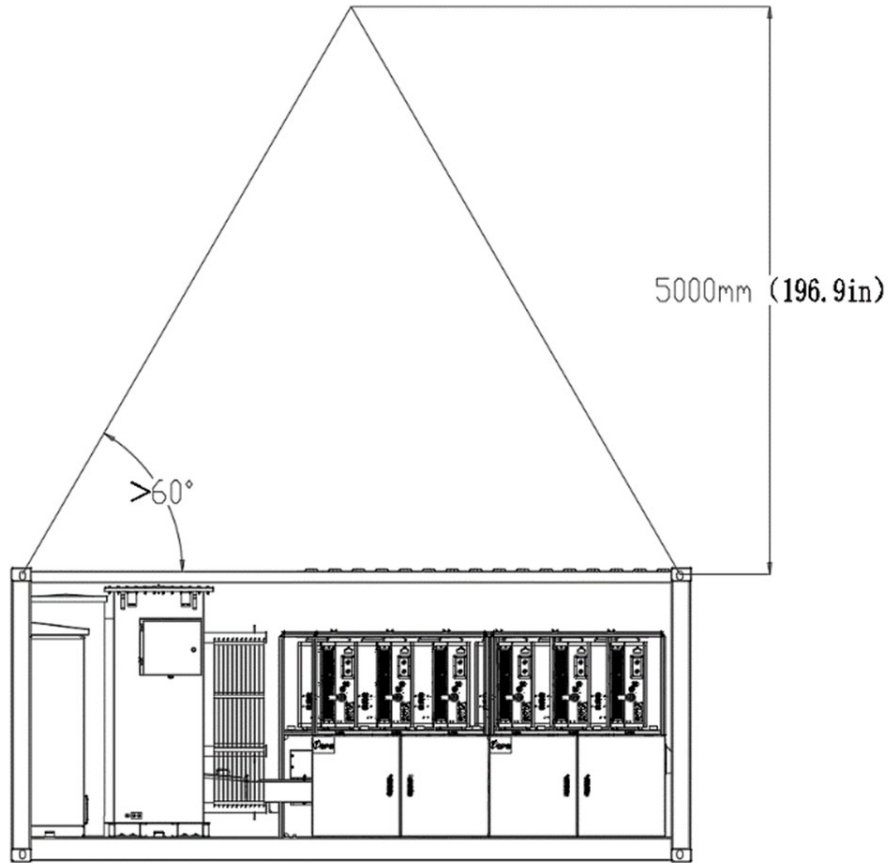

Fig. 3-4 Schematic Diagram of Crane Handling
- The lifting cable used has a bearing capacity of more than 10 tons and a length of more than 6.5 meters. 4 lifting cables are used for lifting at 4 corners. Angle between the lifting cable and the equipment should not be less than 60° (Fig. 3-4), and the total bearing capacity should not be less than 40 tons.